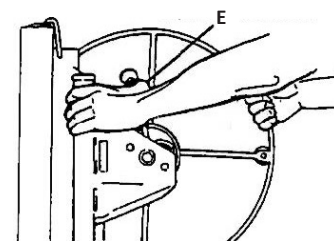

FIG. 3
- Raise the brake arm fully (D). Grasp the winch post and grip the brake arm firmly with your thumb to prevent backlash (E). (Figure 3)